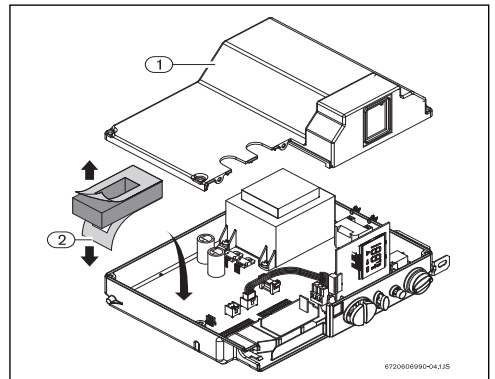
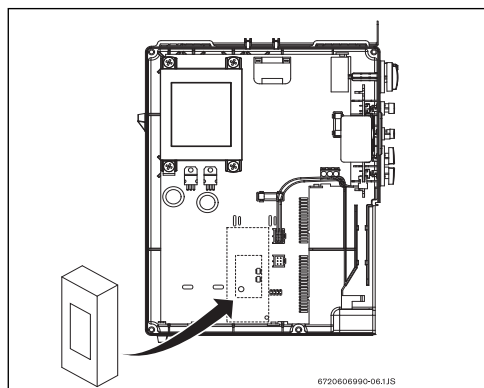

Fig. 4
Fig. 5 Support correct position
- ▶ Remove the two electrical strip connectors inside the auxiliary cover (Fig. 4, see diagram below) and then loosen the 110V power supply cord retaining nut located underneath the heater. Once loosened, the power cord can be pulled up through the heater to provide sufficient slack.
- ▶ Open control unit top cover (Fig. 4, [1]).
- ▶ Remove the protective paper (Fig. 4, [2]) from one face of the support and attach it to the main PCB as shown in Fig. 5.
- ▶ Replace the control unit cover with the 4 Phillips head screws (Fig. 4, [1]).